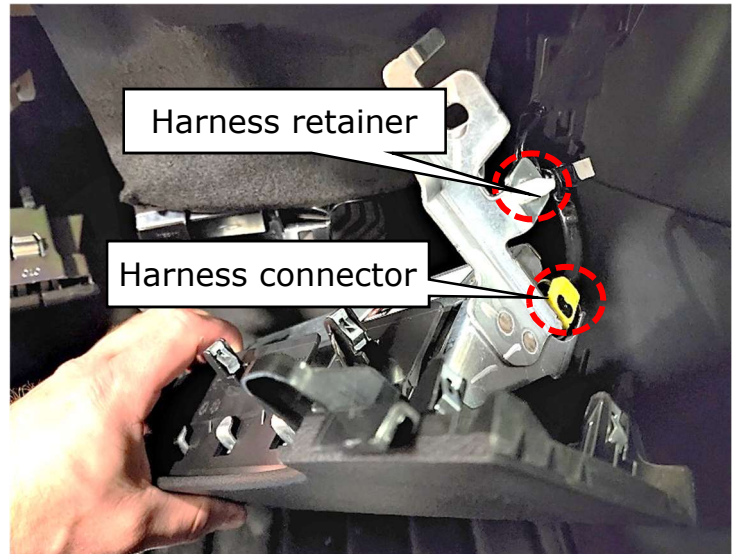

Figure 9
- Lower the LH knee air bag to obtain access to the harness connector and harness retainer (Figure 9)